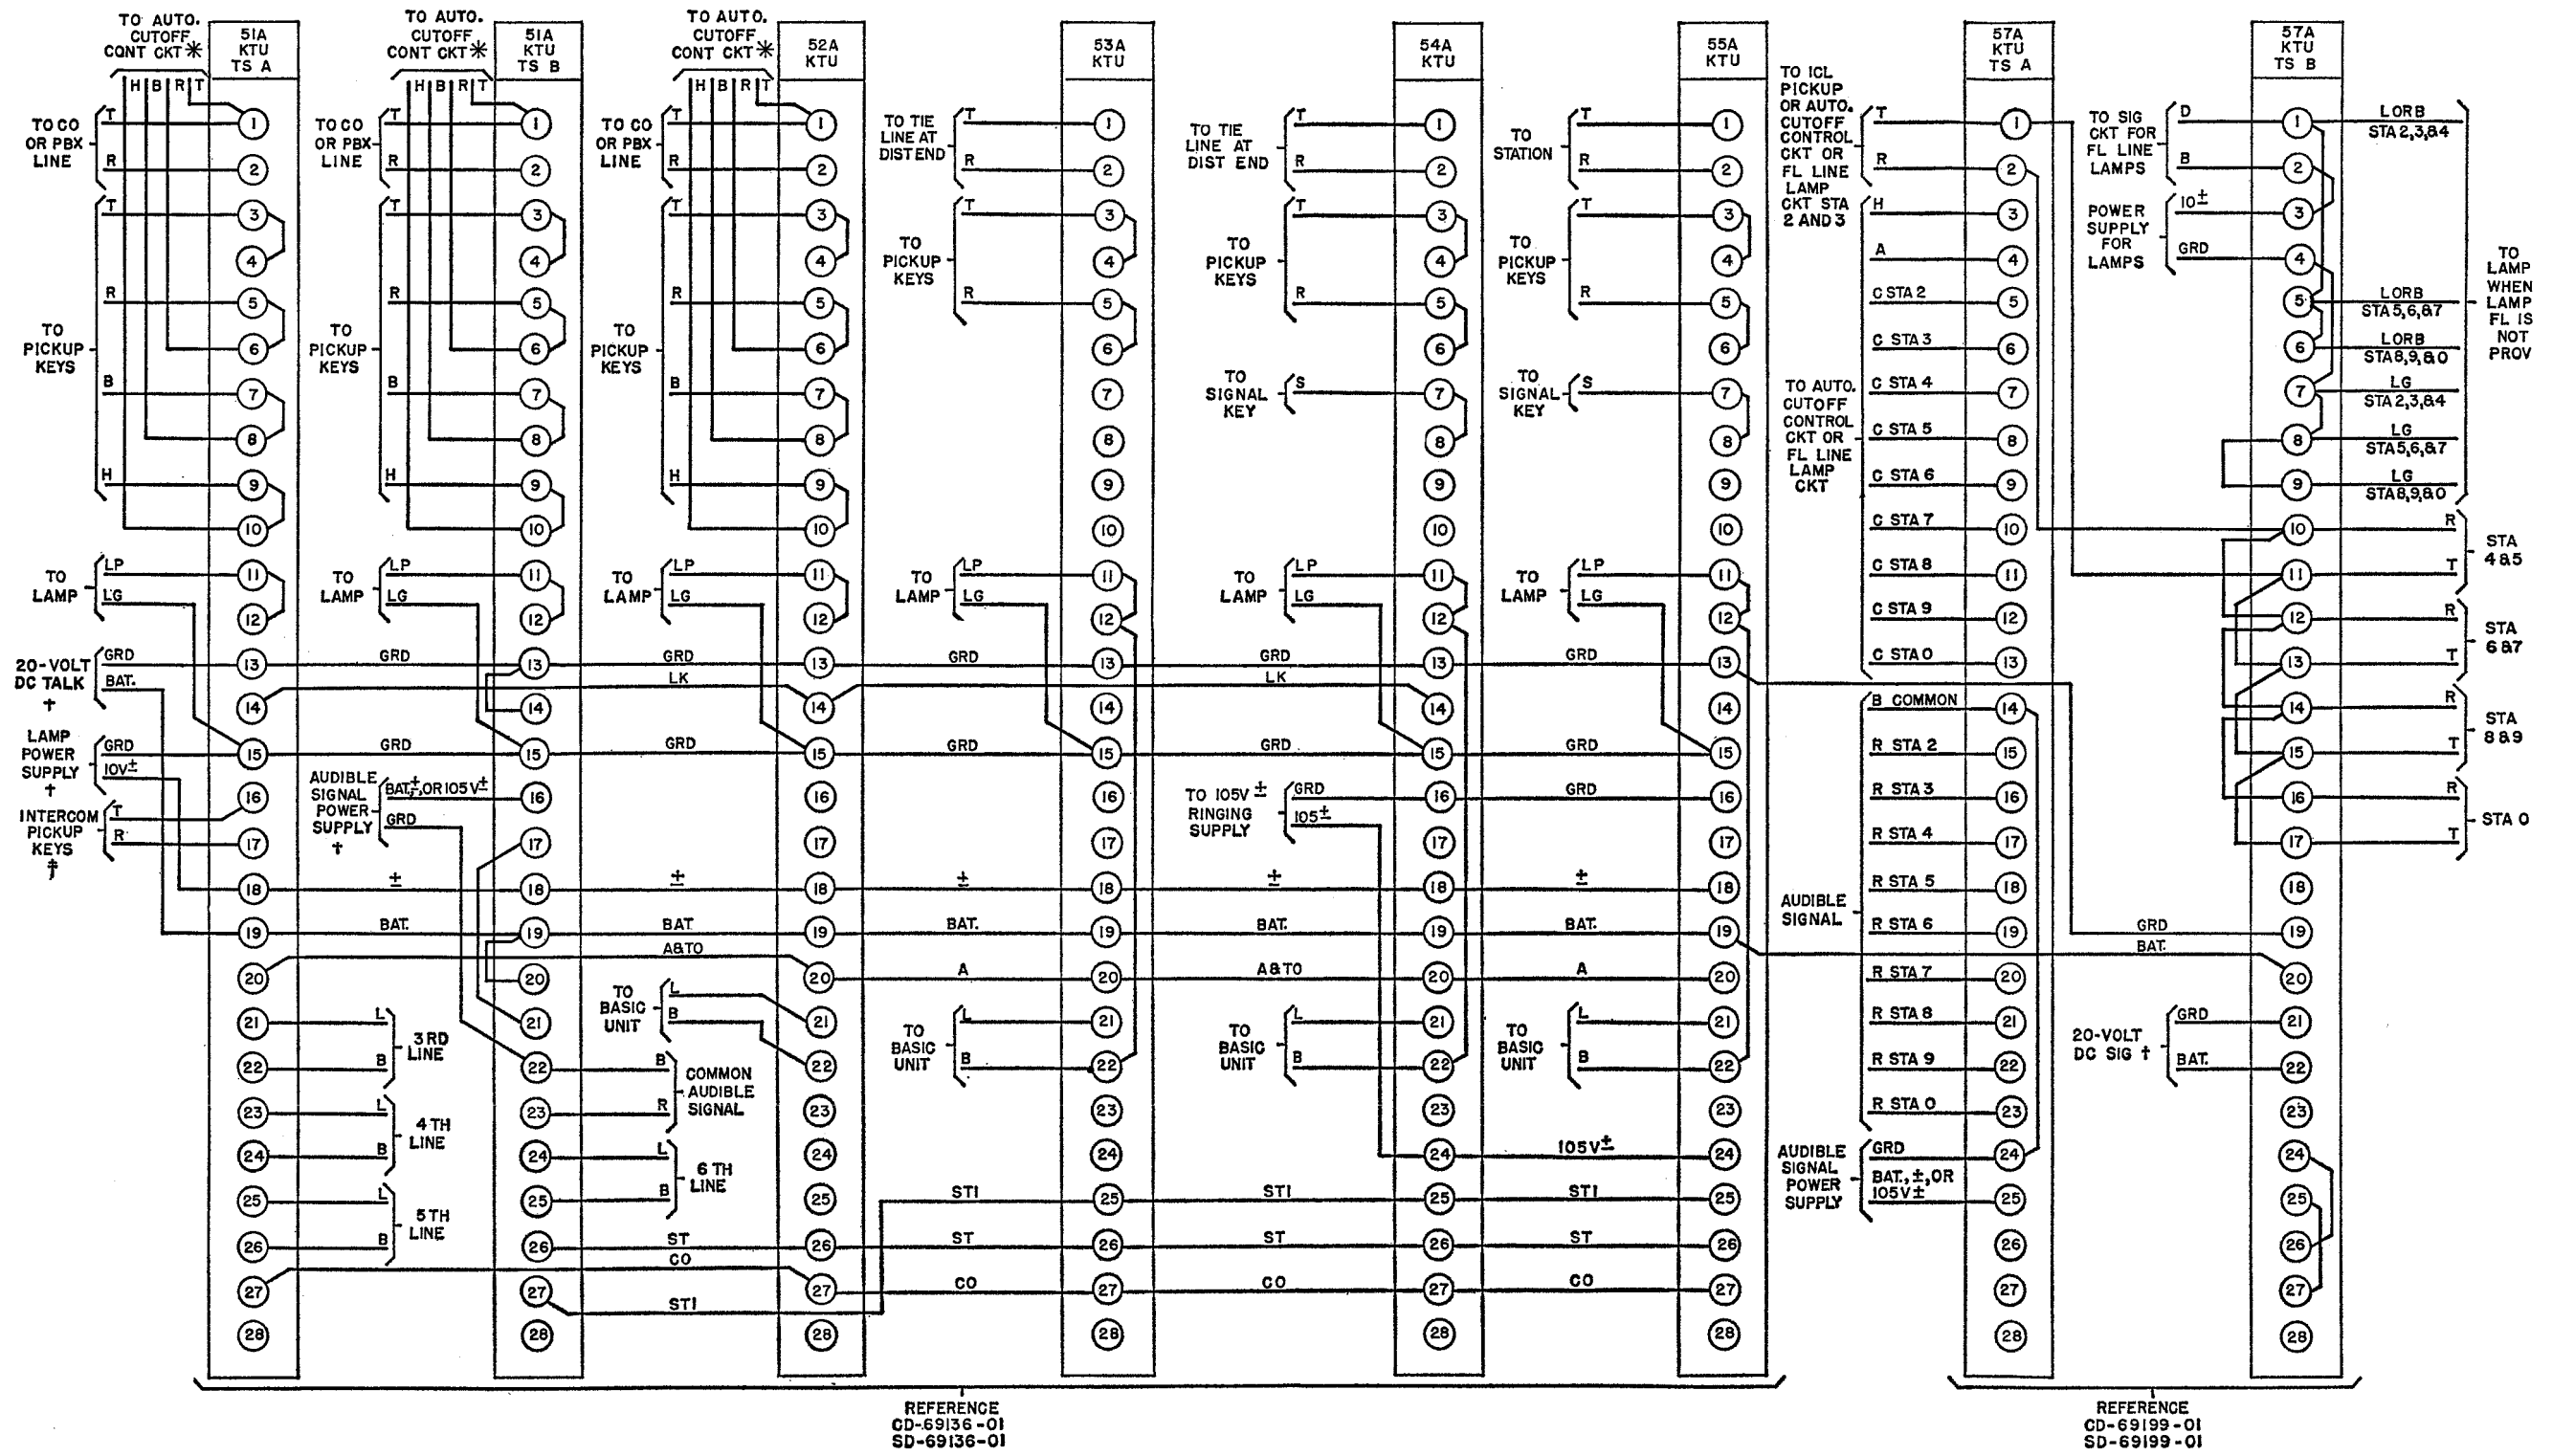

Fig. 1 - 50-type KTU Connections
1.02 The power connections shown in Fig. 1 are the ones most commonly used. When the 101G power plant is used, battery and ground shall
be from the 20-volt dc talk supply. The $18V \pm$ or $105V \pm$ should be used for audible signal supply and the 20-volt dc supply used for relay battery on the 57A KTU as shown in Fig. 1. No fusing is required other than fuses in the 101G power plant.